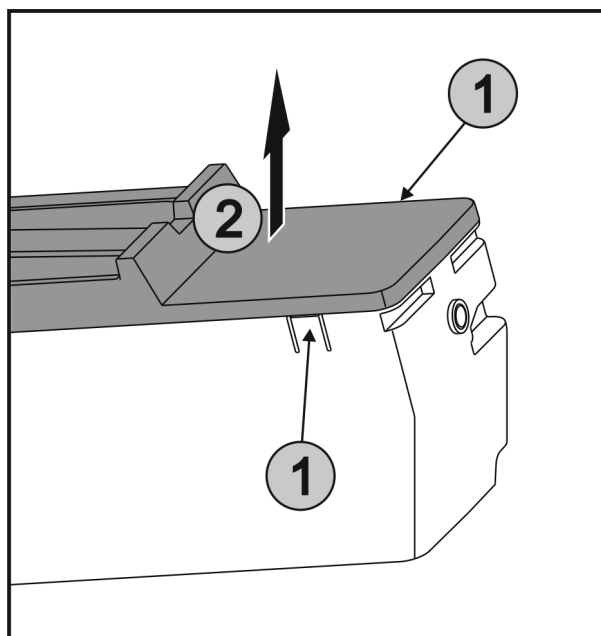

Fig. 40
- Press the lugs Fig. 40 (1) on both sides of the EasyTwist-Ice simultaneously and take off the lid Fig. 40 (2) to the top.